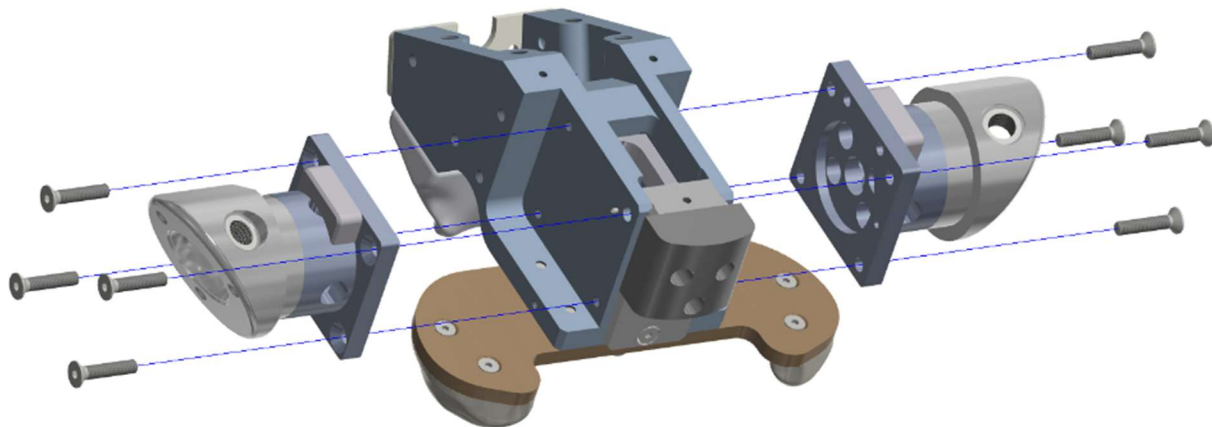

Figure 8-40. Bolt left and right load cell assemblies to Center Pelvic Bone
8.3.11 Bolt the Left and Right Socket/Load Cell Assemblies to the Center Pelvic Bone (474-4541) using four M5 X 0.8 X 25 LG. FHCS, as shown in Figure 8-40.